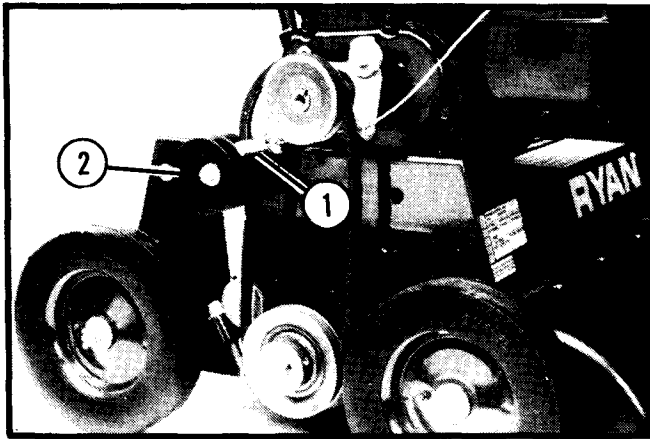

Figure 4. Belt Installed
6. Place the new belts between the idler pulley and the snubber on the idler arm and then over the engine and reel pulleys (See Figure 4).